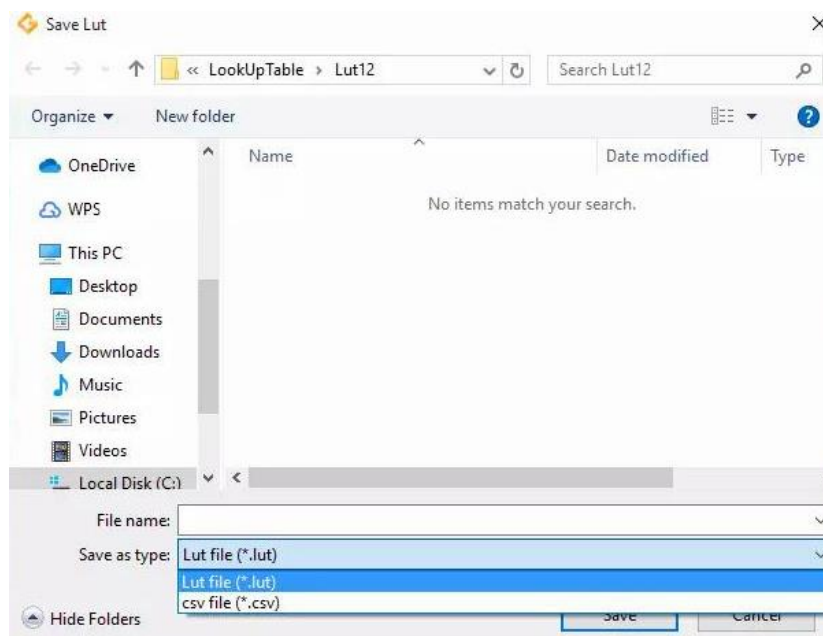

Figure 9-9 Save to file
When selecting Standard LUT in "Select Base LUT", the drop-down list box is enabled, which contains eight sets of optional standard LUT, as shown in Figure 9-9. These eight sets of values are factory set, which can achieve the optimal image effect. When you choose different standard LUT, the polyline and image effects change. You can modify the LUT range, Gamma, brightness, contrast values to add image effects until you are most satisfied.
1. When selecting "Save To File", the current LUT data can be saved to the file. The saved file contains two formats: lut and csv, as shown in Figure 9-9: